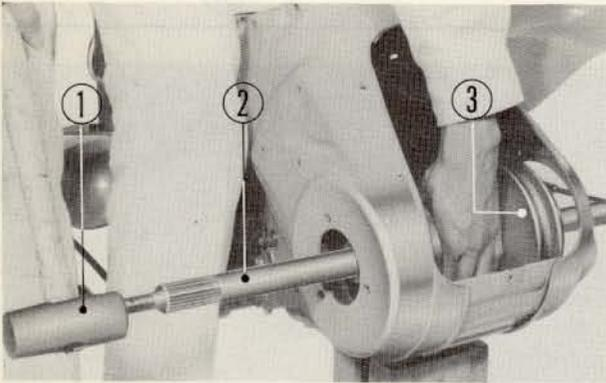

Fig. 4-17
- ① Ball bearing    ② L. panel
17. While holding the rear wheel hub by hand, drive out the axle. Use a wooden or soft-faced hammer and give careful hammer blows from the side as shown in Fig. 4-17.